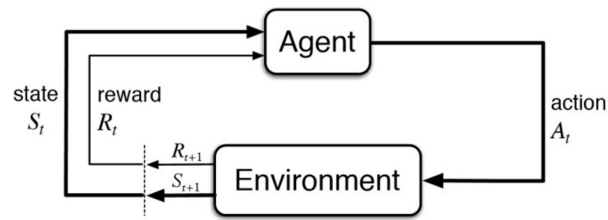
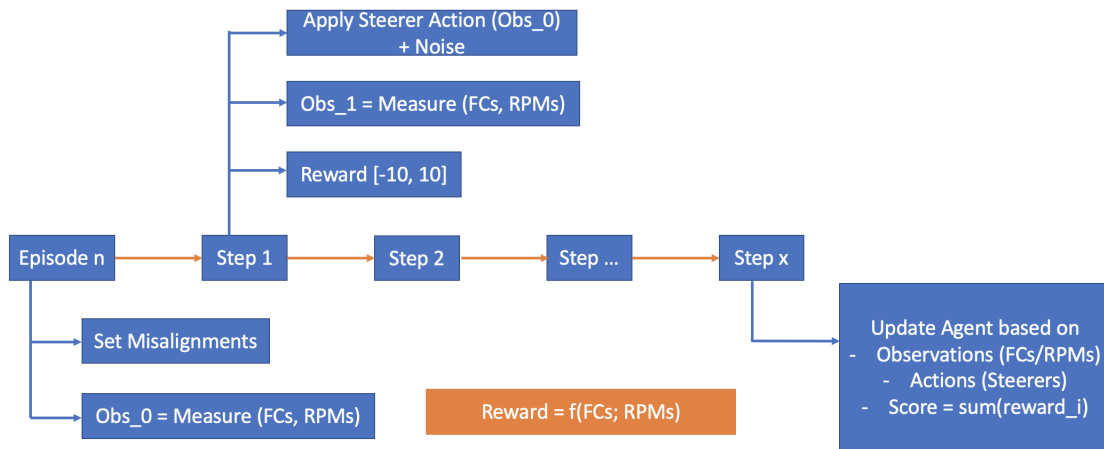

Figure 24: Reinforcement Learning Strategy
Figure 25: Reinforcement Learning Strategy
**Don't pay 120\$ for each of them!** Both lectures are usually on discount for 20\$ (or even less) each. Try to open the links in incognito mode and/or different browsers. Basic knowledge in python and Neural Networks is required to follow both lectures. Especially the Advanced Algorithms online class covers state of the art algorithms, that are used for the project. Therefore only a small overview of the available agents is given. The basic principle of reinforcement learning is shown in Figure 24. The algorithm is an interplay of the so called environment (beamline) and the agent. The agent predicts an action  $A_t$ , which is applied to the environment and the environment sends its state back to the agent along with a reward. Based on that state and the reward, the agent predicts new values which are again applied to the environment. For the project, the overall structure of reinforcement learning is shown in Figure 25. The learning process happens in so-called steps. At the beginning of each step, the beamline is randomly misaligned and random small action to the steerer is applied. After that the beamline gets measured for the first time (Obs.0). The agent gets a certain amount of steps to optimize beam transmission. Each step steerer actions are predicted based on the observation in the step before.